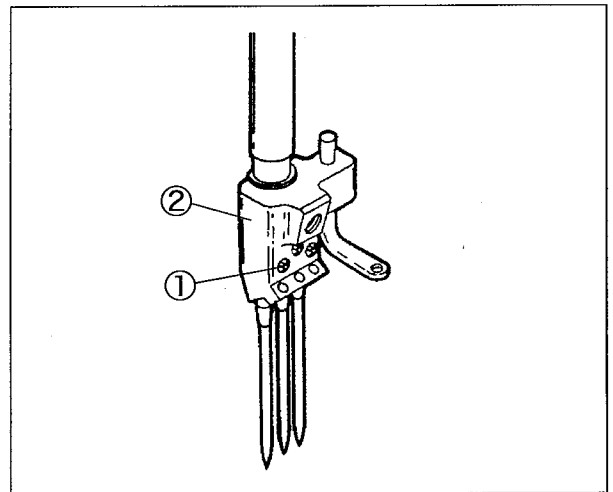
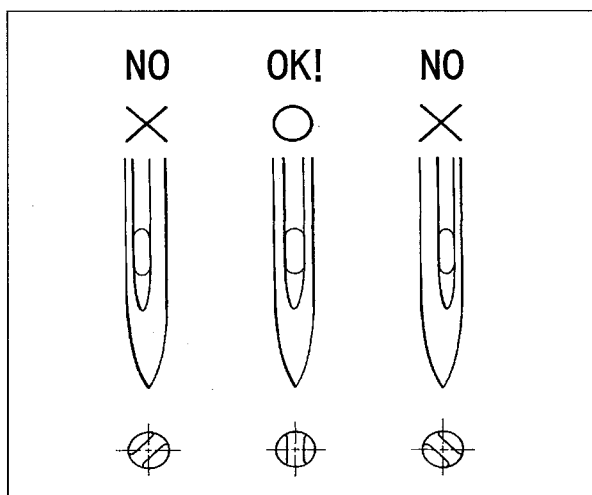

Fig. 20
Fig. 21
- (1) Loosen the screws ① with a screwdriver. (Fig. 20)
- (2) Remove the old needle with a pair of tweezers.
- (3) Insert a new needle into the needle clamp ② as far as it will go with facing its scarf to the right back. (Figs. 21 and 22)
- (4) Tighten the screws ① with a screwdriver